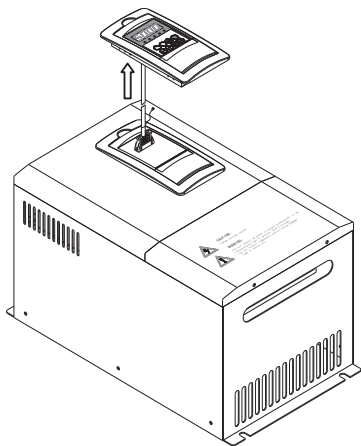

Fig. 3-15 Mounting Diagram for the operator panel and connecting wire of the inverter Model B
Step 4. Put the dismantled keypad into the installation frame ,Fix and fasten it . Put the other side cable insert into the plug of the keypad .(as shown in Figure 3-15).